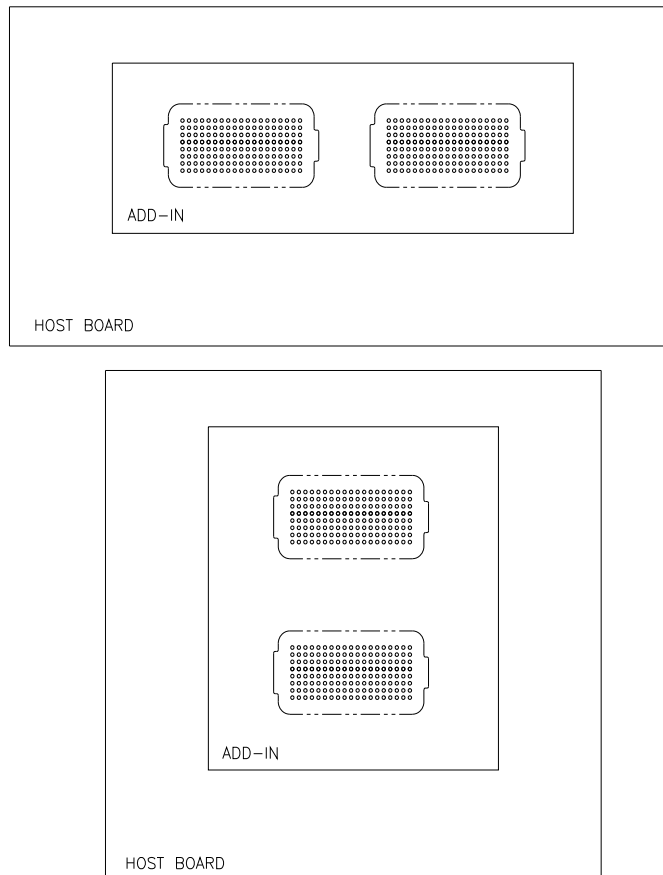

**Figure 2: Pad Layout Example**
Proper PCB design affects connector reliability and performance. The following recommendations are intended to ensure reliable electrical connections, while maximizing manufacturing yields and aiding in possible rework applications. Refer to customer drawings for overall pad layout. See Figure 2 for the detail of a single pad and via design.
- PCB vias should not be included in the ball grid array solder pads (See Figure 2). The connector side of the via shall be fully covered with solder mask. Solder mask may be truncated along interconnect trace.